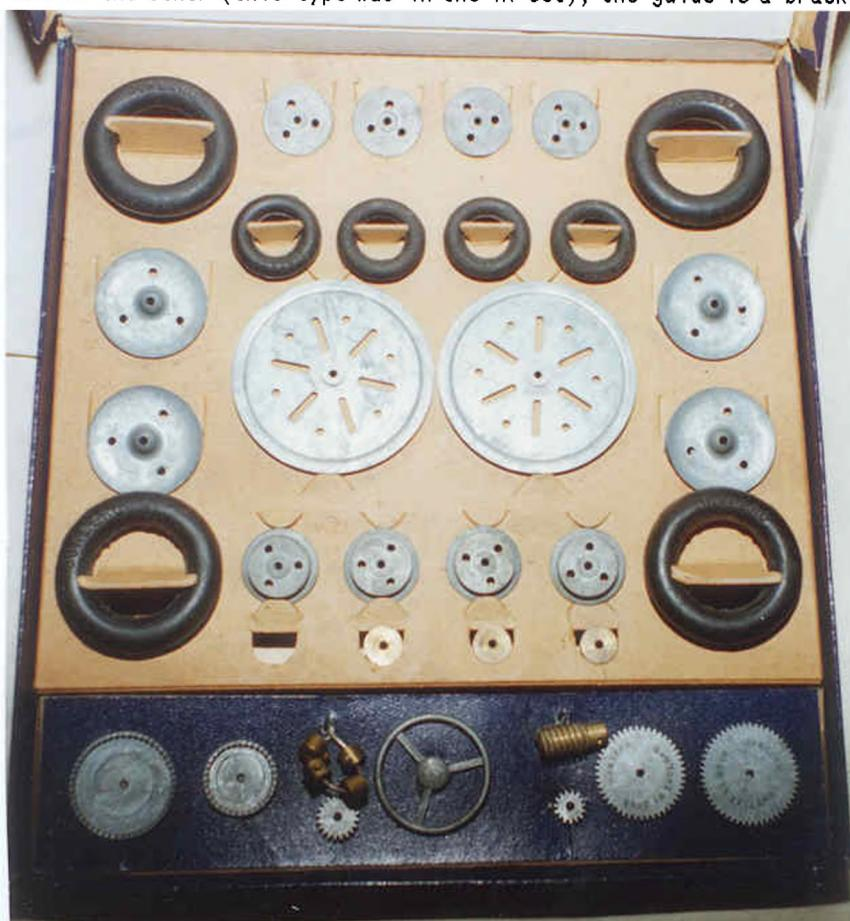

FIG 8
Under 'Sets' in MCS(FB) is included the Gear Kit and Wheel Kit, and details of the latter have been contributed by Roger Baker. His set probably dates from the same time as the 1A above because the price of 21/- on the lid is also given in the later leaflet in the 1A. The contents of the set are printed inside the lid and comprise 2 off 2-3/4" Pulleys; 4 each of the Flanged Wheel, the three other Pulleys and the two Tyres; a Steering Wheel and one of each Gear, Pinion and Worm. It is a little surprising that although they were listed as Accessories in the 1A leaflet, the 2" Road Wheels are not included in this Set. The Worm, ½" Pulleys and Collars are made of brass, all the other parts are zinc alloy die-castings. All bosses are double tapped and all the die-cast parts except the Pinions have JUNEEERO and MADE IN ENGLAND cast into them. Fig 8 is a photocopy of a photo of the set.